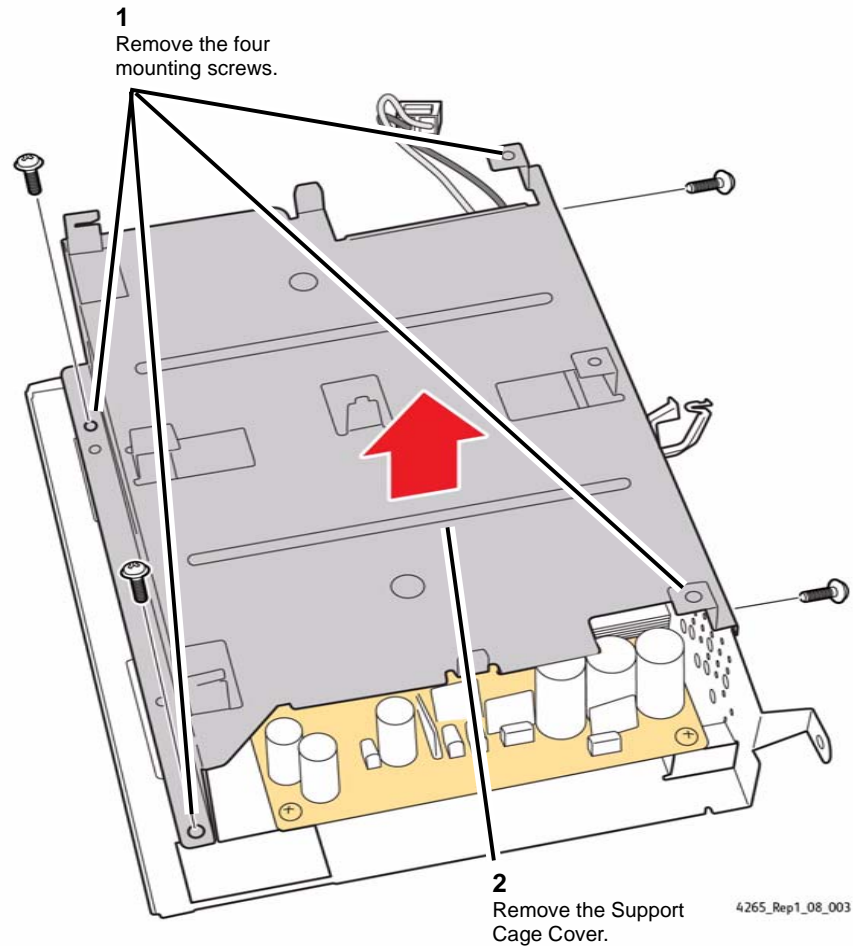

Figure 3 Removing the Support Cage Cover
5. Remove the Support Cage Cover (Figure 3).